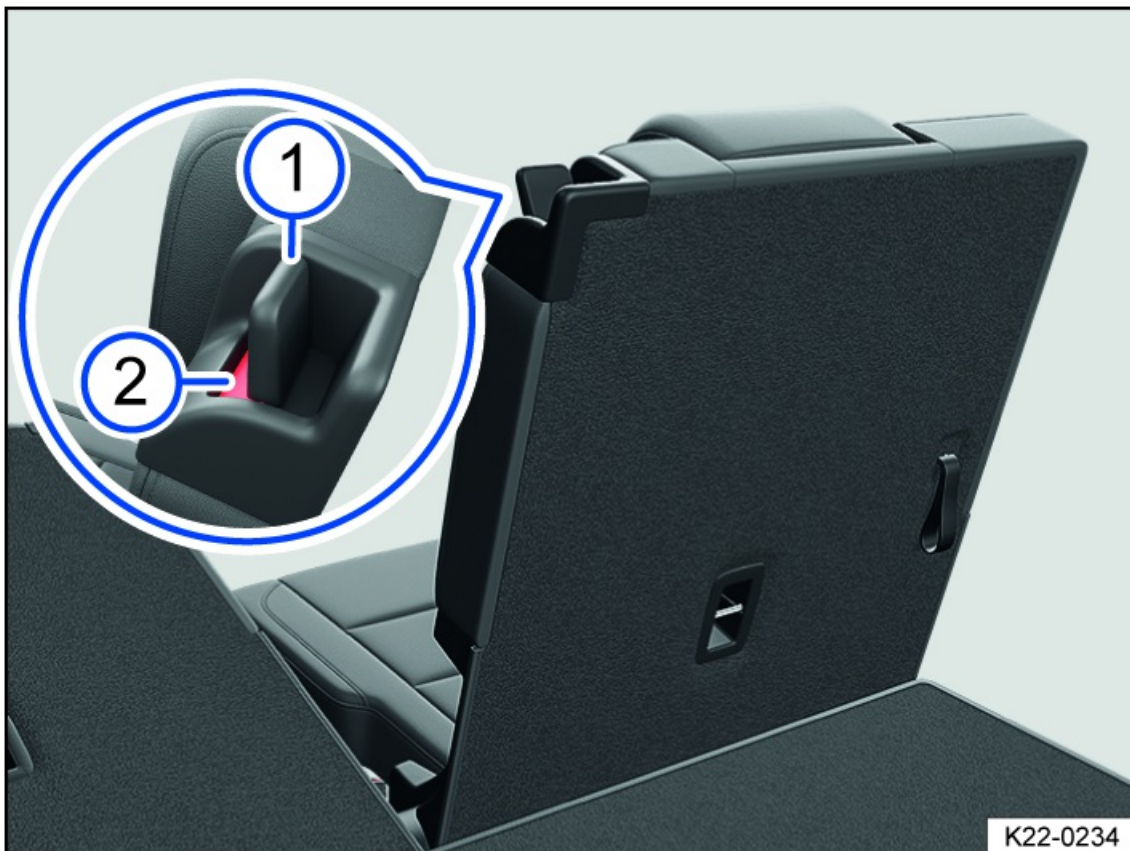

Fig. 86 Third row seat: folding the rear seat into the cargo floor position.
7. To release the rear seat backrest, pull the release lever *fig. 86* all the way back.
The red marking on the release lever *fig. 86* must no longer be visible.
- A red marking on the release lever fig. 86 indicates that the rear seat backrest is not latched. The red marking must not be visible when the backrest is latched.